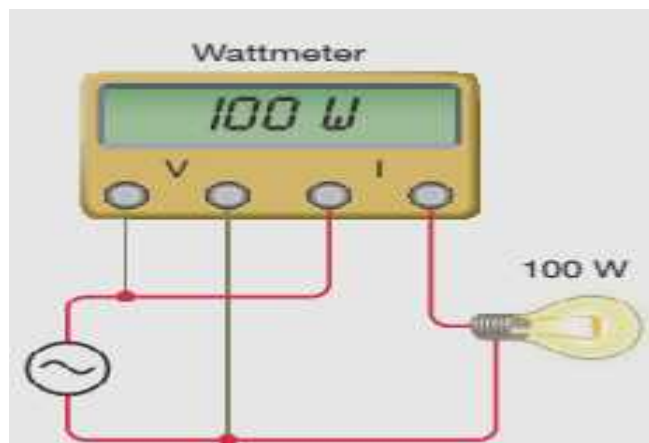

Fig.2.21. Wattmeter connected to measure power
-) Power can be measured using a wattmeter. The wattmeter is basically a voltmeter and ammeter combined into one instrument (Fig.2.21).